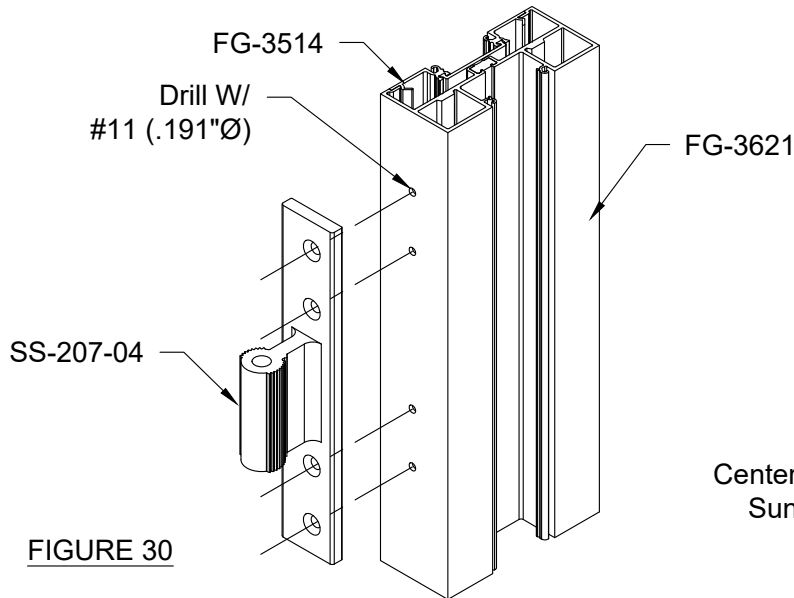

FIGURE 30
- 1) Drill face of mullion using a #11 (.191" Ø) drill per FIGURE 30 & 31.